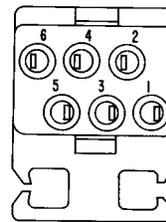

Fig. 9—509A Plug
**2.08 509A:** The 509A plug (Fig. 9) is a molded chaining plug of light beige insulating material, arranged for assembly of up to six blade cord-tipped conductors required for connections in multi-key telephone sets.